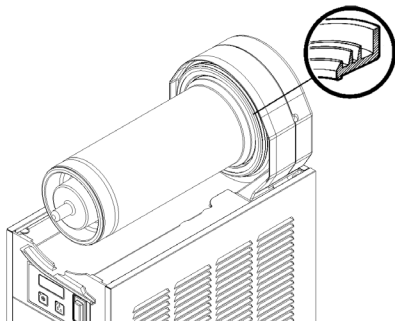

**figure 11**
**2** Lubricate faucet piston, outer spiral and outside magnetic rotor (see points A, B and C of figure 11) only with the grease supplied by the manufacturer or other **food grade approved** lubricant.